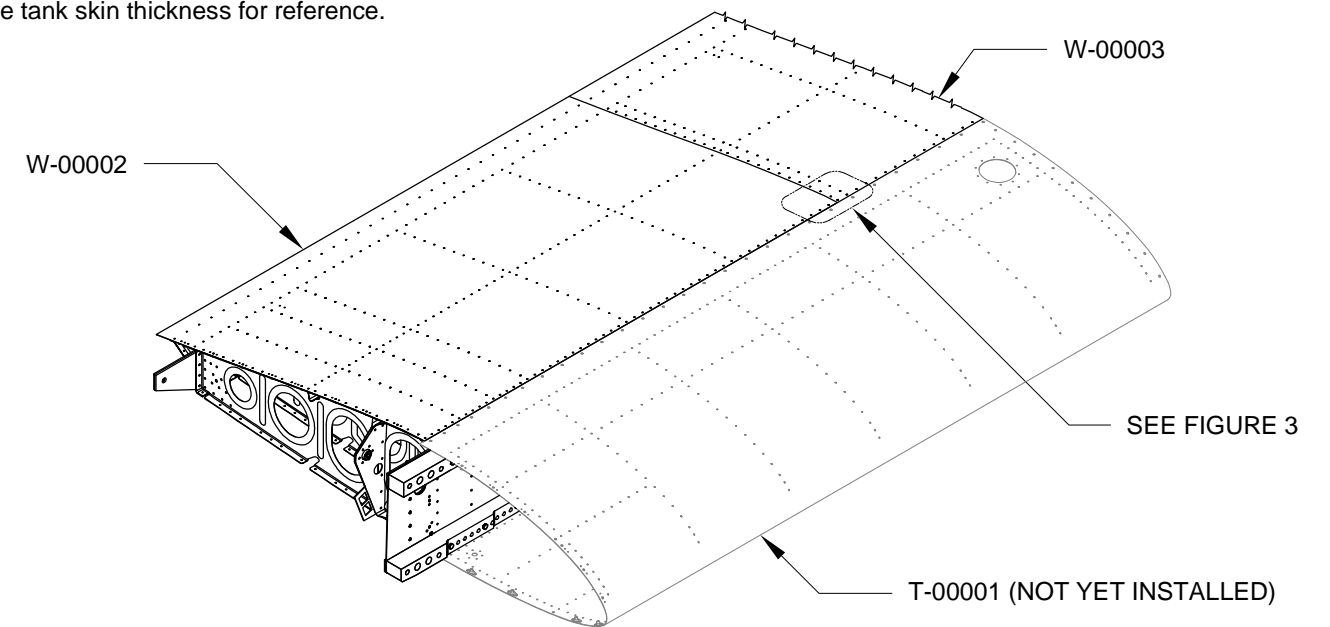

FIGURE 2: WING SKIN MATING OVERVIEW
Step 6: Remove material thickness from the top outboard forward edge of the W-00002 Top Inbd Wing Skin and the bottom inboard forward edge of the W-00003 Top Outbd Wing Skin as shown in Figure 2. When finished, the joined edges of the top inbd and top outbd wing skins should be of equal thickness with the T-00001 Fuel Tank Skin upon installation. Use a scrap piece of AS3-032 to simulate the tank skin thickness for reference.